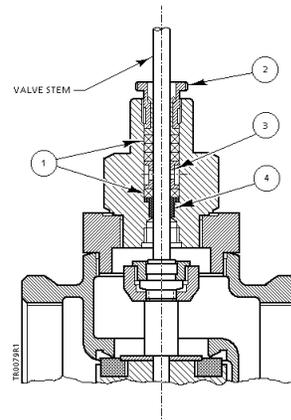

Figure 6. Split Ring Packing Assembly.
Table 6. VF591CD, DS, WM, V-Port Flowrite Valves. See Figure 6.
Table 7. VF591SD and ST Flowrite Valves. See Figure 6.
See Figure 6 for the location of the parts used in this procedure.
3. With the valve stem held in the closed position, carefully place a packing ring, the packing spacer and the remaining three packing rings over the stem in the order shown in Figure 6. Individually tamp each packing ring into the bonnet as far as possible. The splits in the packing rings must be staggered to provide a good seal.